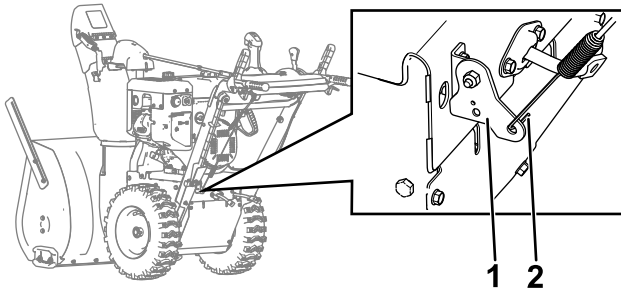

**Figure 10**
3. Connect the other end of the rod to the new traction plate using a bolt and nut included with this kit (Figure 10).